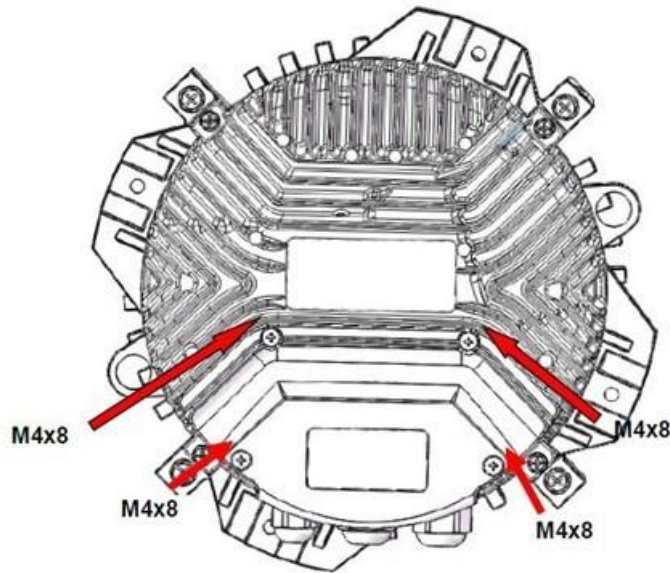

Figure 26. Terminal Cover
2. Remove the terminal cover by removing the four M4x8 mm fasteners as shown in **Figure 26**.
10. Remove the terminal cover shown in **Figure 26**. Remove caps from the cable glands.